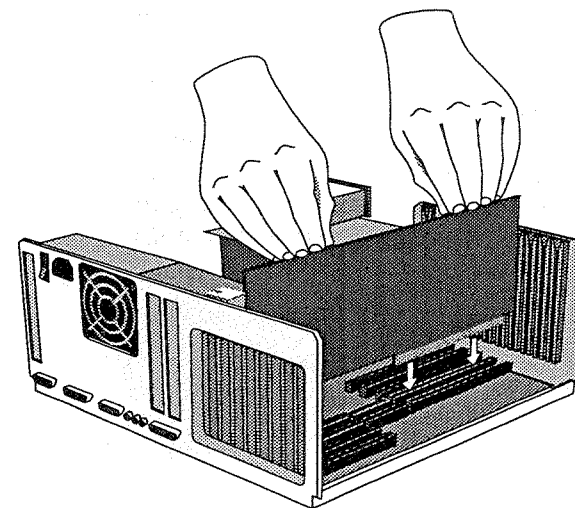

Figure 2.2 — Insertion in the A2000
2. Orient the A4008 with its attached slot cover to the rear, and slide it in carefully (see Figure 2.2).